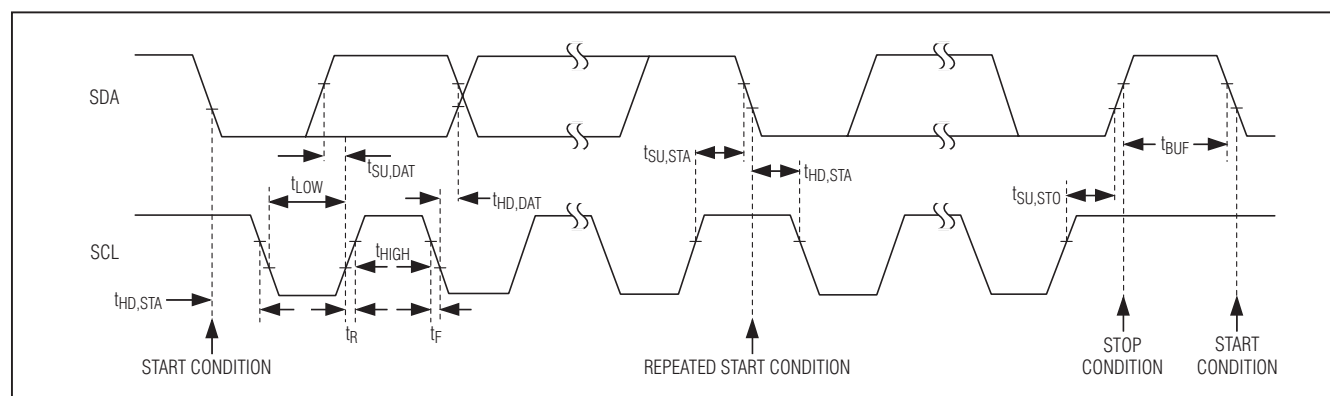

Figure 4. 2-Wire Serial Interface Timing Detail
The I2C interface consists of a serial data line (SDA) and a serial clock line (SCL) to achieve bidirectional communication between the master and the slave. The MAX16826 is a slave-only device, relying upon a master to generate a clock signal. The master initiates data transfer to and from the MAX16826 and generates SCL to synchronize the data transfer (Figure 4).
Both SCL and SDA remain high when the bus is not busy. The master signals the beginning of a transmission with a START (S) condition by transitioning SDA from high to low while SCL is high. When the master has finished communicating with the MAX16826, it issues a STOP (P) condition by transitioning SDA from low to high while SCL is high. The bus is then free for another transmission (Figure 4). Both START and STOP conditions are generated by the bus master.